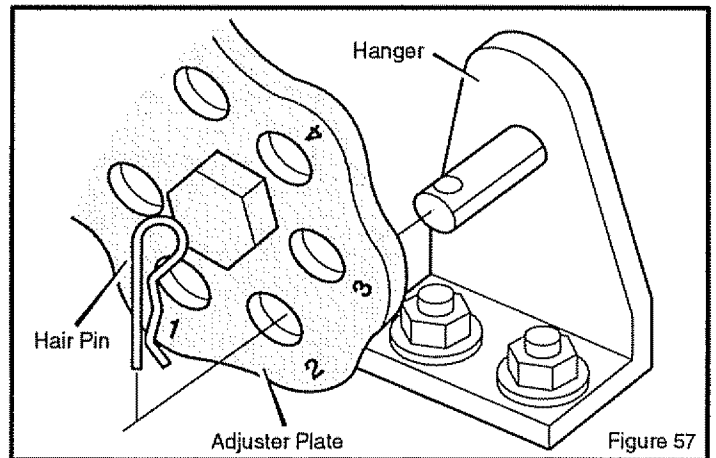

Figure 57
1. Disconnect one or both adjuster plates from the hangers (Figure 57).